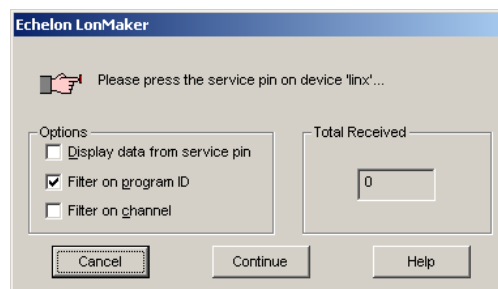

Figure 83: Wait for the service pin from the device.
7. Then the service pin requestor opens as shown in Figure 83. Press the service pin on the replacement device on the correct port. You can also send the service pin from the device information page on the Web interface.